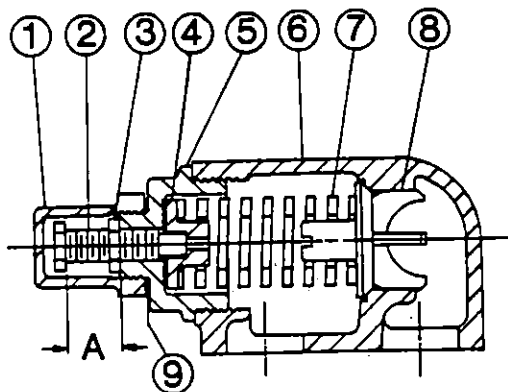

FIGURE 11
2. Measure and record the length of extension of the adjusting screw. See "A" on figure 11.